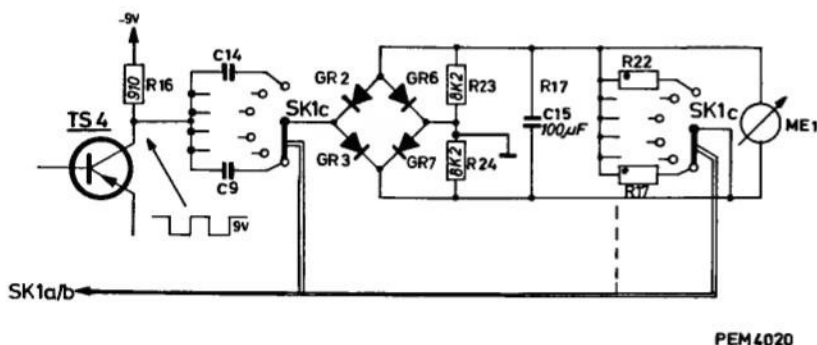

Fig. 6. Differentiation, rectifying and indicating section
H. DIFFERENTIATION, RECTIFYING AND INDICATING SECTION (Fig. 6)